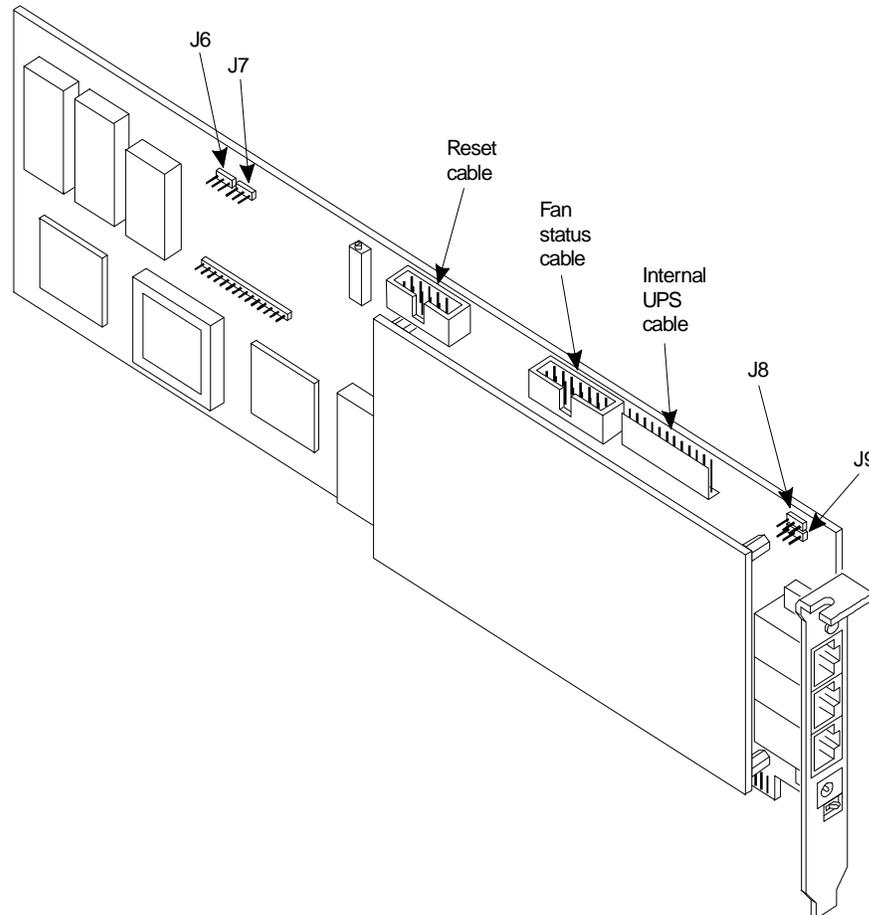
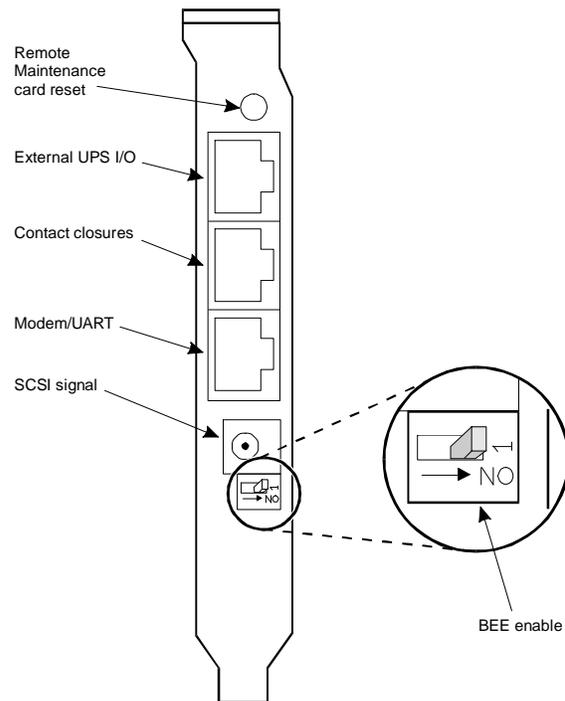
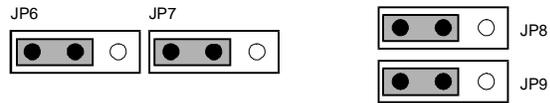

Figure 9-26. Remote Maintenance Circuit Card
Figure 9-27. Faceplate of the Remote Maintenance Circuit Card Showing the BEE Enable Switch
Figure 9-28. Jumper Settings for the Remote Maintenance Circuit Card
The MAP/40 accommodates a Remote Maintenance circuit card (Figure 9-26) to allow for remote diagnostics of basic MAP/40 components.
Figure 9-27 shows the faceplate of the Remote Maintenance circuit card and an enlarged view of the BIOS Extension EPROM (BEE) enable switch. Ensure that this switch is set to the ON (default) position as shown.
Figure 9-26 shows the four jumper locations on the Remote Maintenance circuit card (J6, J7, J8, and J9). Ensure that a jumper is installed on pins 1 and 2 of each one as shown in Figure 9-28.
The following tables show the pinouts for the various connectors on the Remote Maintenance circuit card. Figure 9-26 and Figure 9-27 show the locations of these connectors.
7. Connect the suppression cable to the external modem connection on the faceplate of the Remote Maintenance circuit card (see Figure 9-27 for the location of the modem/UART connection) and to the modem.